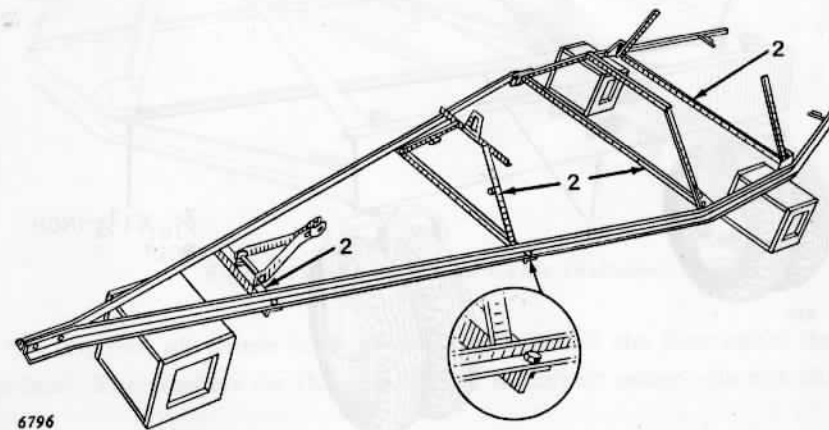

Figure 11—Cross Braces and Trunnion Link Installed
2. Bolt the three cross braces (Bundle AC3106Y) and the trunnion link assembly (in box) **loosely** to the two lower angles. (See Figure 11.) **NOTE: All lower angles of cross braces should point back as shown in insert.**